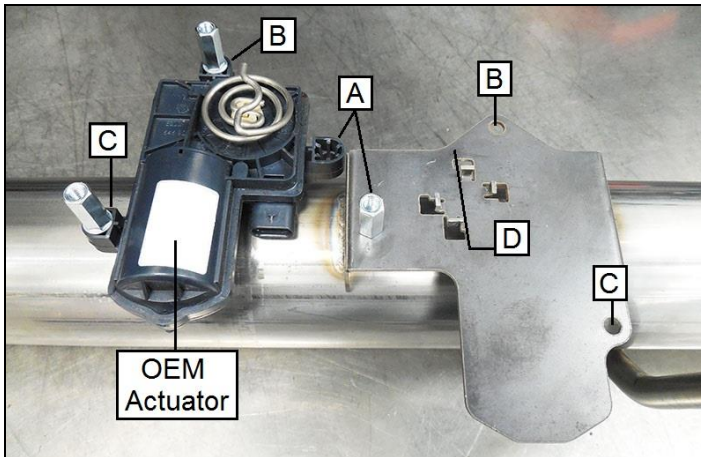

Figure 2
1. Place the Right tailpipe on the work bench with the AEV mounting bracket facing up (**Figure 2**).
2. Install the (x2) coupling nuts and washers onto the AEV actuator positions **B** and **C** with the 10-32 x 3/4" flange bolts (**Figure 2**). Be sure to install the washer between the actuator and the coupling nut. Do not over tighten the bolts, as the actuator case is plastic.
3. Install the third coupling nut onto the actuator mounting plate (position **A**) using a 10-32 x 1/4" flange bolt. Install the bolt from the back side of the bracket as shown in **Figure 2**.
4. Install the coupler spring on to the actuator making sure the drive spring is centered and firmly locked into the drive on the actuator (**Figure 2**).
6. Place the actuator on to the mounting plate and align positions **A**, **B**, and **C**. Make sure the drive spring wire is located between the raised tabs on the mounting plate (**Figure 2** reference line **D**). Install the 10-32 x 3/4 flange bolt into position **A** on the actuator and into the washer and coupler nut previously installed on to the mounting plate. Be sure the washer is installed.